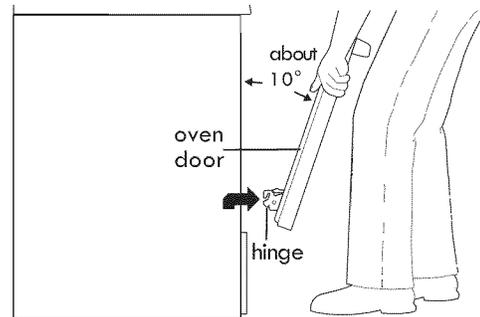
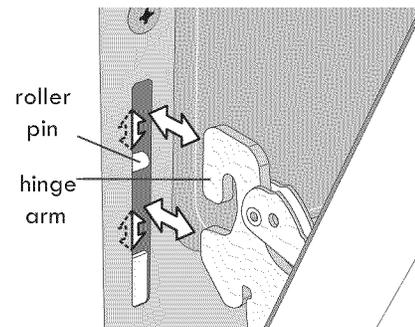

Figure 23: Holding door for removal
Figure 24: Location of hinge arm and roller pin
3. Firmly grasp both sides of oven door along the door sides. Do not use the oven door handle (See Figure 23).
4. Close the door to 10 degrees from the door frame (Figure 23).
5. Lift the oven door hinge arms over the roller pins located on each side of the oven frame (See Figure 23).
1. Firmly grasp both sides of oven door along the door sides. Do not use the oven door handle (See Figure 23).
2. Holding the oven door at the same angle as the removal position (See Figure 23), seat the hook of the hinge arm over the roller pins located on each side of the oven door frame (See Figure 24). The hook of the hinge arms must be fully seated onto the roller pins.